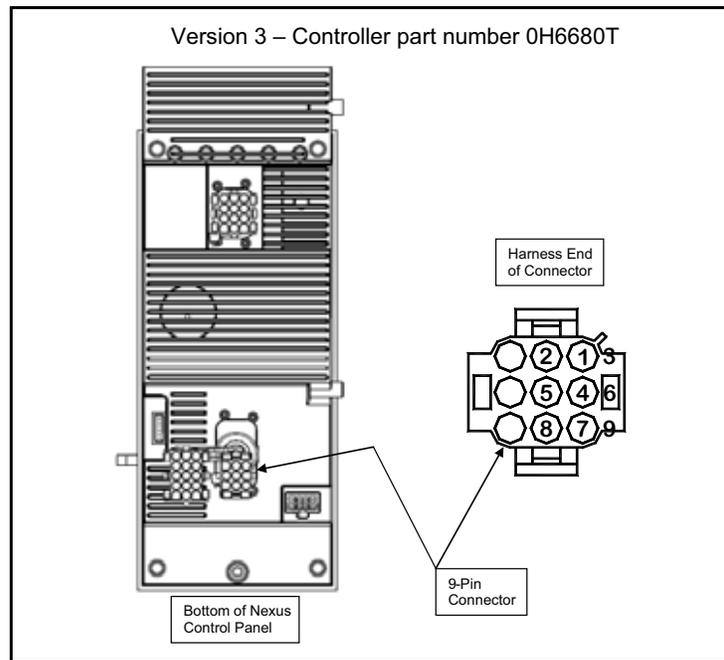

Figure 4. Bottom (underside) of Nexus Controller - Version #3
1. Bottom (underside) of Nexus Controller for Steps 1-3. Unplug the 9-pin connector from the Nexus control panel by carefully releasing the latch on the side of the connector, Figure 4.
3. Install the 9-pin connector back into the connector on the back of the control panel. See Figure 4.